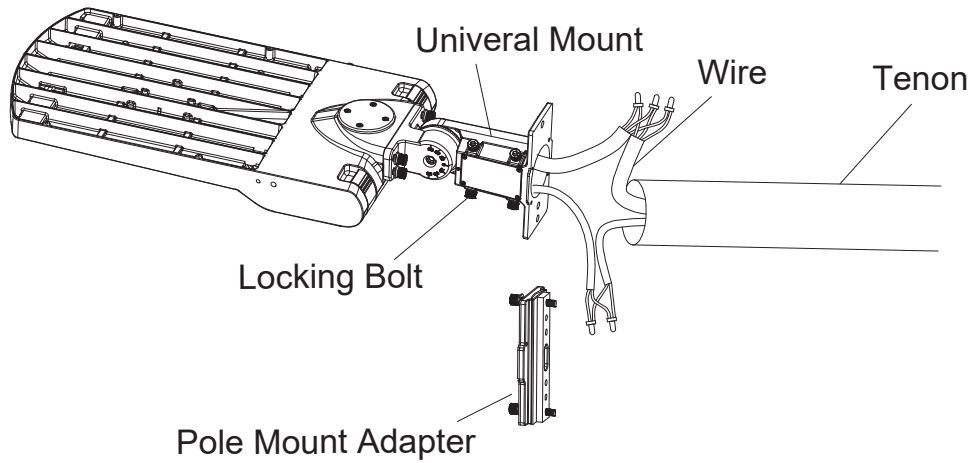

Figure 3
Step 2: Loosen the four bolts on universal bracket, connect the wires correctly, and pull the wires into the poles.(Figure 3)
Step 4: Place the bracket into the pole/tenon and lock the four bolts.(Figure 3)